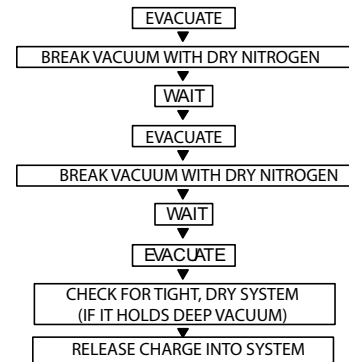

Fig. 24 — Triple Evacuation Method
The triple evacuation method should be used when the vacuum pump is not capable of pumping down to 500 microns and system does not contain any liquid water. Refer to Fig. 24 and proceed as follows:
5. Repeat this procedure as indicated in Fig. 24. System will then be free of any contaminants and water vapor.